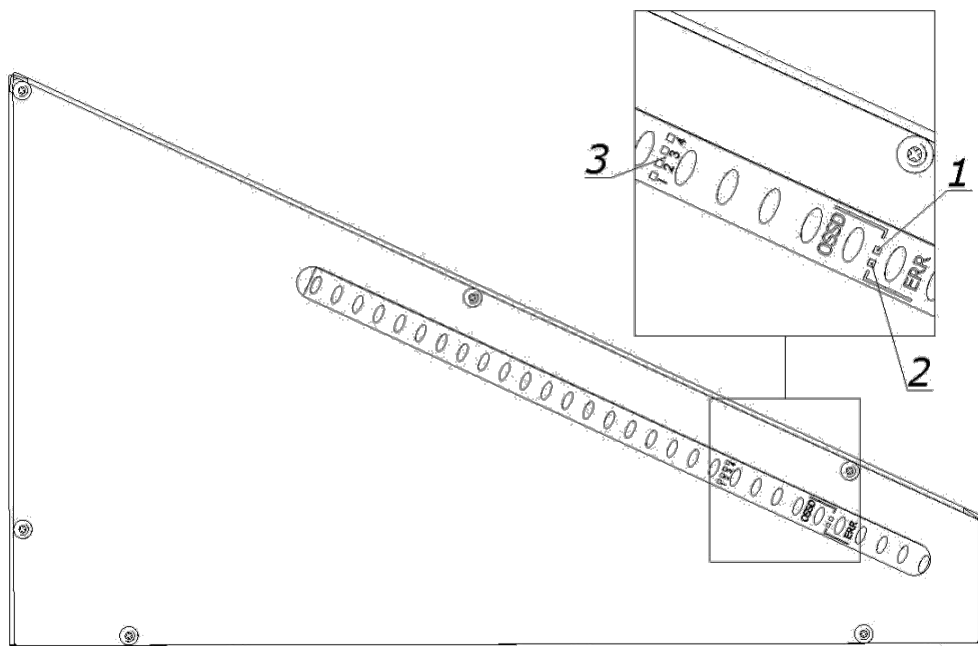
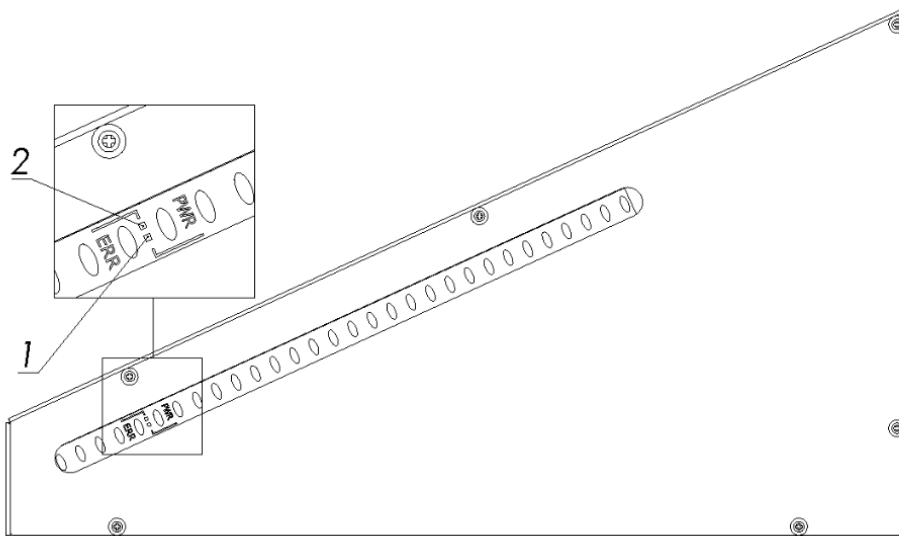
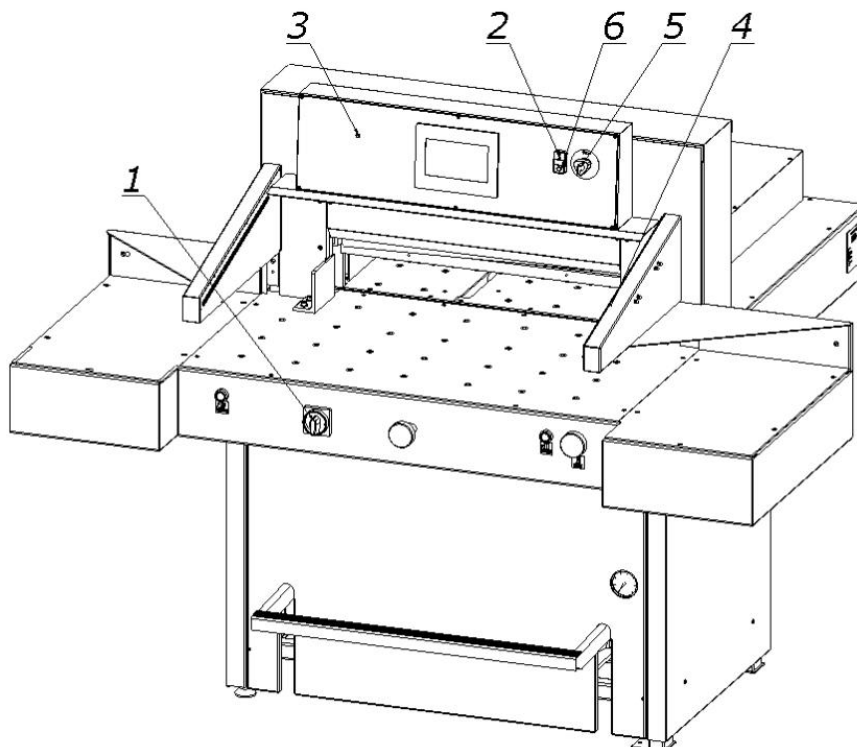
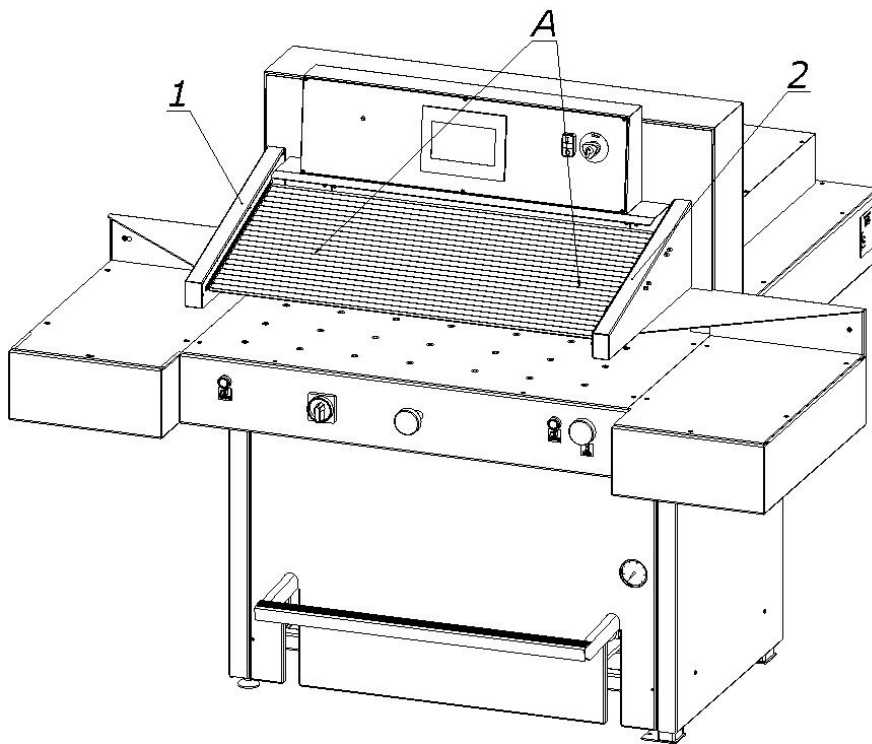

Figure 11 Receiver indicators
Figure 12 Transmitter Indicators
Figure 15 Arrangement of the elements used when switching the cutter.
Figure 16 Light curtain
1. Set the main switch 1 to "ON" 1 position (Fig. 15)
2. Press the green button 2 (Fig.15)
- the green OSSD 1 LED lights up (Fig.11) in the receiver 4 (Fig.15)
|  | <p>INFO</p> <p>If after turning on the power supply with the main switch 1 (Fig. 15) and pressing the green button 2, the LED 3 is green, the connection is correct (correct direction of rotation), if the LED is red, the connection is not correct and should be replaced in the plug two of three phase conductors.</p> |
When the cutter is switched on, the transmitter 1 and receiver 2 are initialized (fig. 16). All transmitter and receiver LEDs will light for a moment. After initialization the receiver indicates the quality of the setting using four blue LEDs 3 (Fig.11). (Table 9)
The setting indicator extinguishes after a suitable time when the safety light curtain is set (the LED of the device switching the output signal: green item 1 figure 11) and only the PWR LED of transmitter 1 (fig.12) and LED 1 (fig. 11) device for switching the receiver's output signal.
1. Press the button 5 (Fig.15)
1. Unlock button 5 (turn it around) (Fig.15)